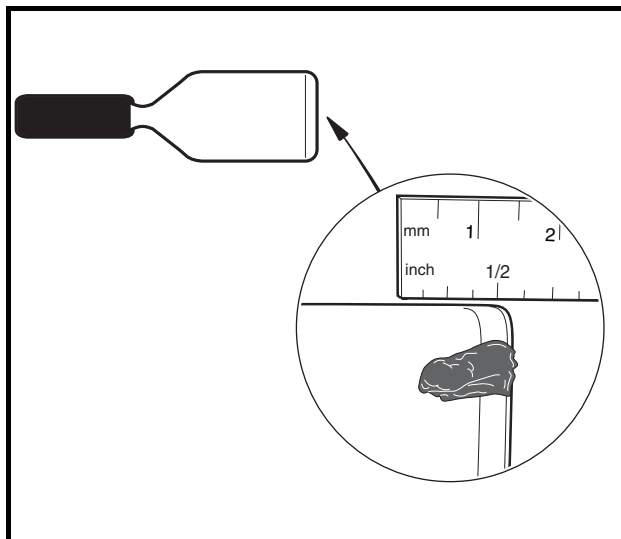

Figure 16-13 Grease on Putty Knife
- 2.1. Squeeze approximately 1/2 inch (1.3 cm) of moly-teflon lubricant (CCI P/N 102243403) from tube onto a putty knife as shown (**Figure 16-13, Page 16-12**).